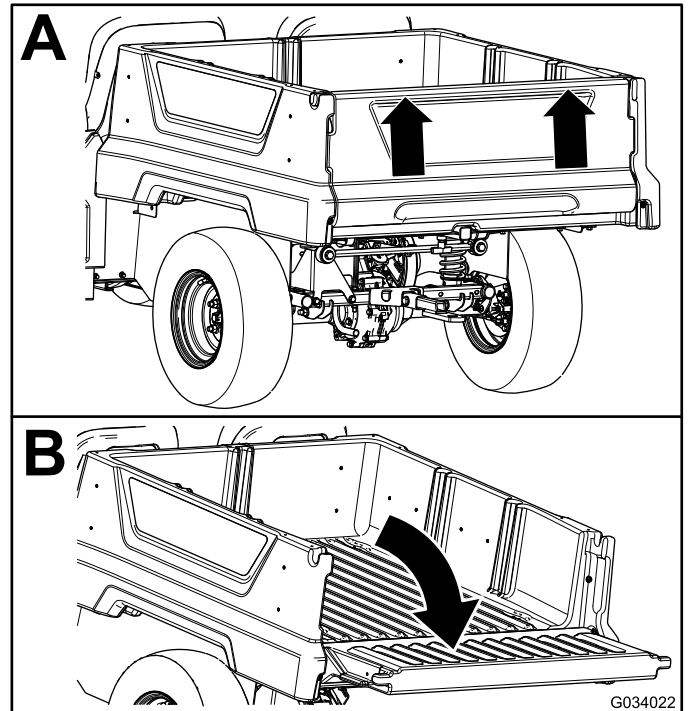

Figure 16
2. Using both hands, raise the tailgate using the ridge near the top of the tailgate (Figure 16).
3. Lower the tailgate until it is flush with the bottom of the cargo bed (Figure 16).